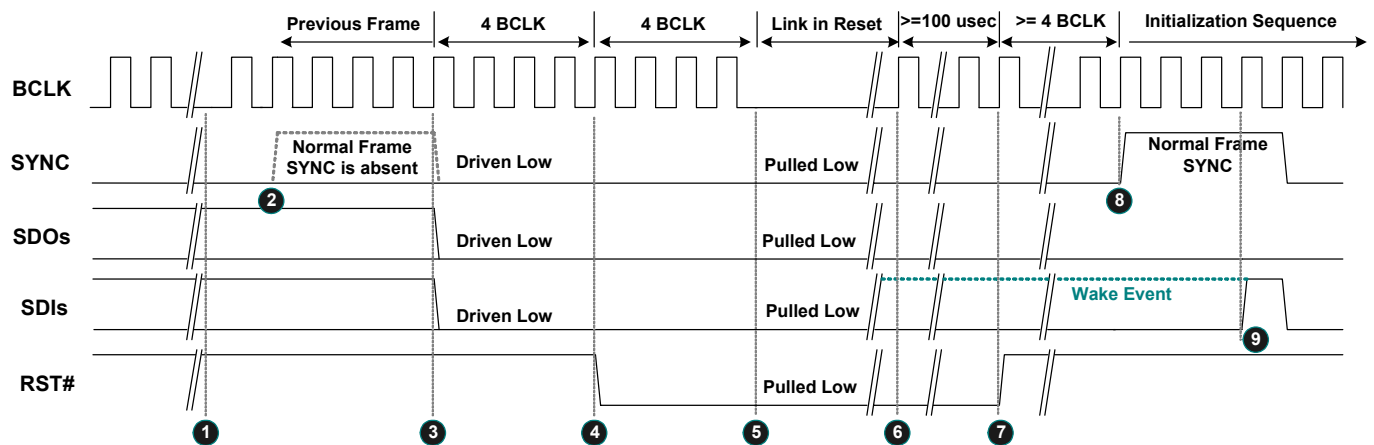

Figure 12. Link Reset Timing
3. Software initiates power management sequences. Figure 12, page 19, shows the 'Link Reset' timing including the 'Enter' sequence (❶~❺) and 'Exit' sequence (❻~❸)